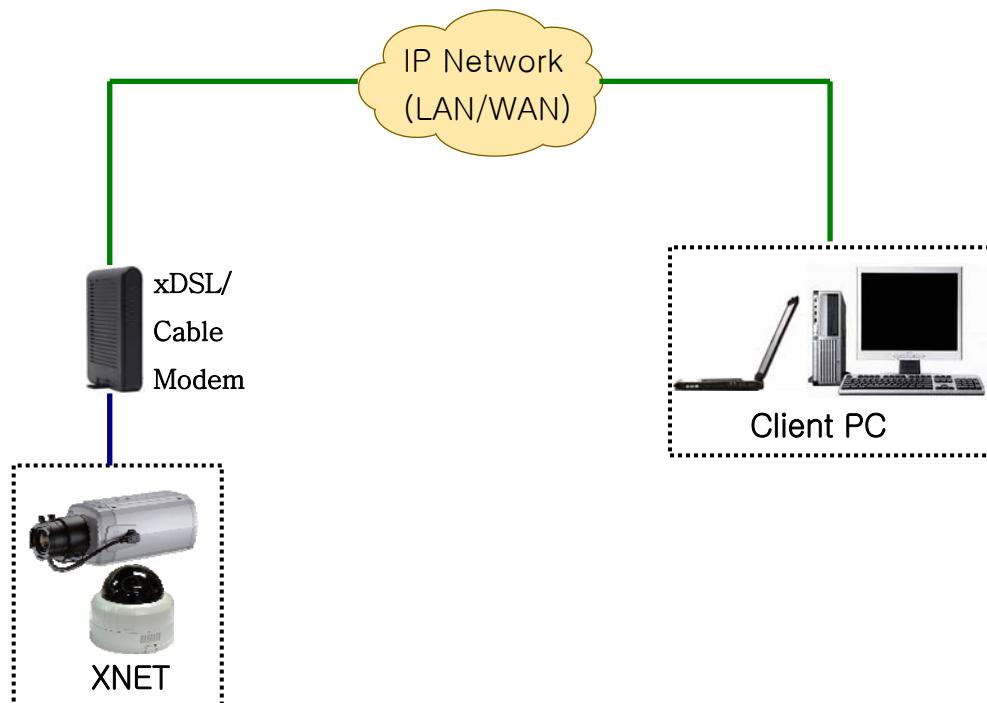

Figure 3-2. Connecting the XNET to ADSL Modem
- 1) Follow through steps ① to ③ in **Section 2.5** to assign IP address and other network parameters to XNET/XNET-Wireless.
- 2) Install XNET/XNET-Wireless and connect it to xDSL or Cable modem as in Figure 3-2.